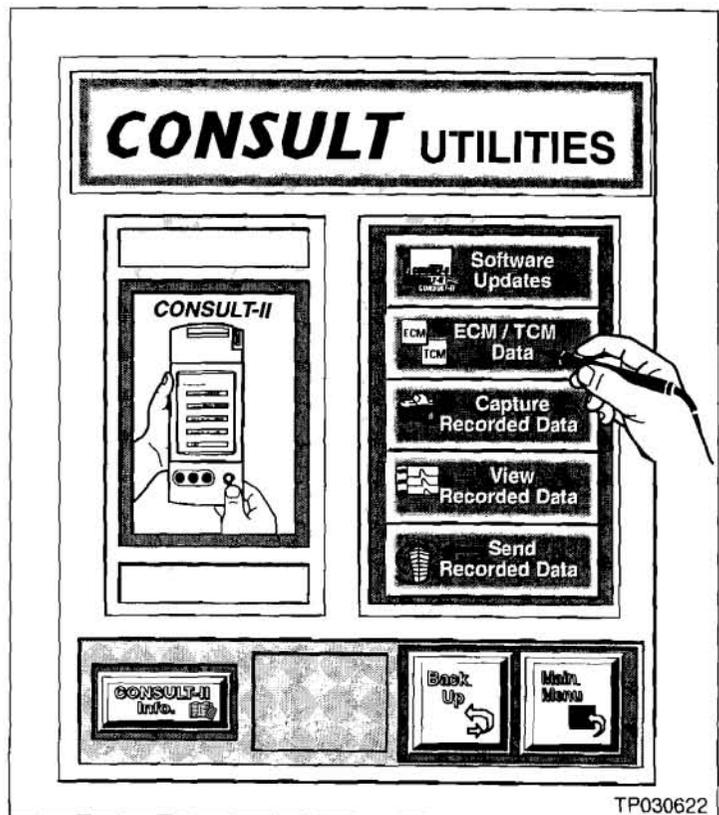

Figure A5
- From the "**CONSULT UTILITIES**" screen, select "**ECM / TCM DATA**" (see Figure A5).